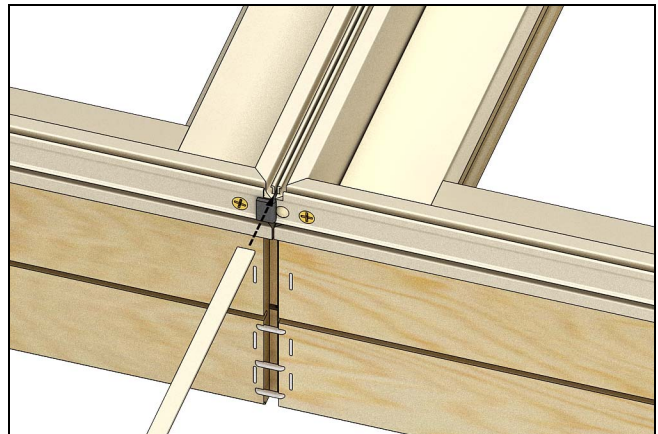

Figure 18
5. Join the units close to each other so the notched corners are together and slide the aluminum mull clip over the mull as shown Figure 18. Pound the clip in with a plastic headed hammer or wood block and framing hammer until the clip contacts the other side.